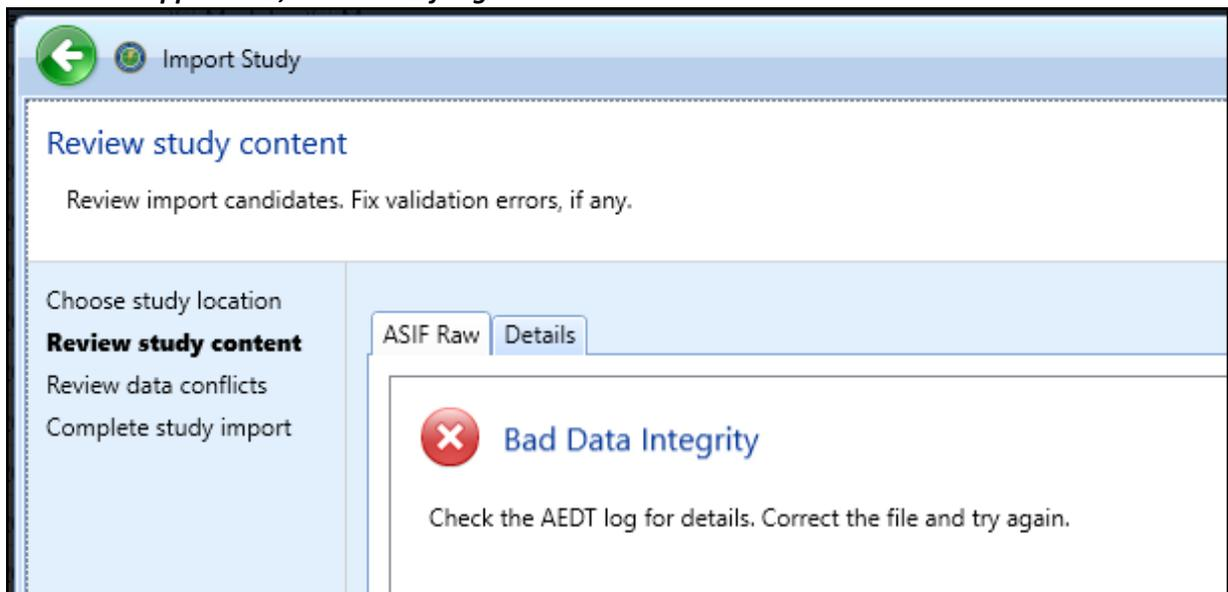

Figure 35- Review study content - bad data integrity
- If the "Bad Data Integrity" message appears, select *Cancel* (Figure 35). This message indicates errors in validating the XML file based on the EDMS study data. **Please refer to Appendix B, section 5.2 for guidance on how to resolve these data errors.**